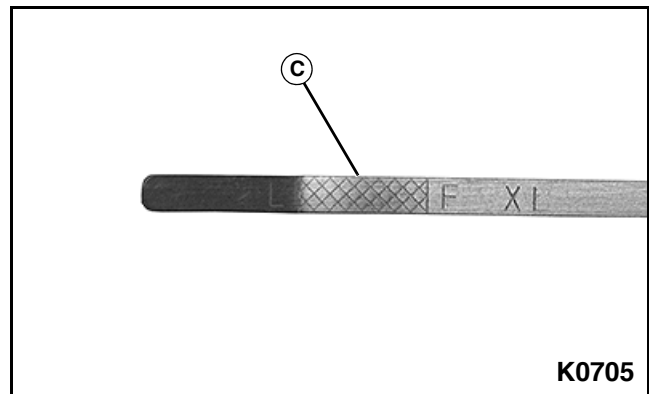

Figure 5-18
10. Check engine oil level, making sure that the level lies between the L and F marks on the dipstick (C). **See Figure 5-18.**